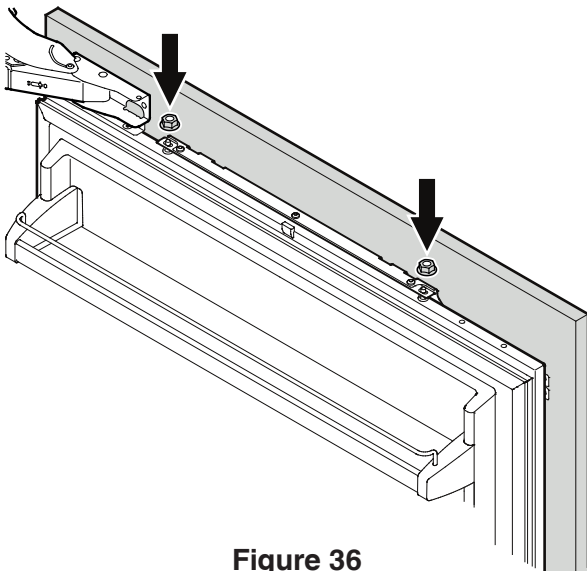

Figure 36
2. Open the refrigerator door and hang the panel on the top adjusting bolts (**Figure 36**).
3. Screw on the hex nuts to the adjusting bolts and finger tighten temporarily (**Figure 36**).